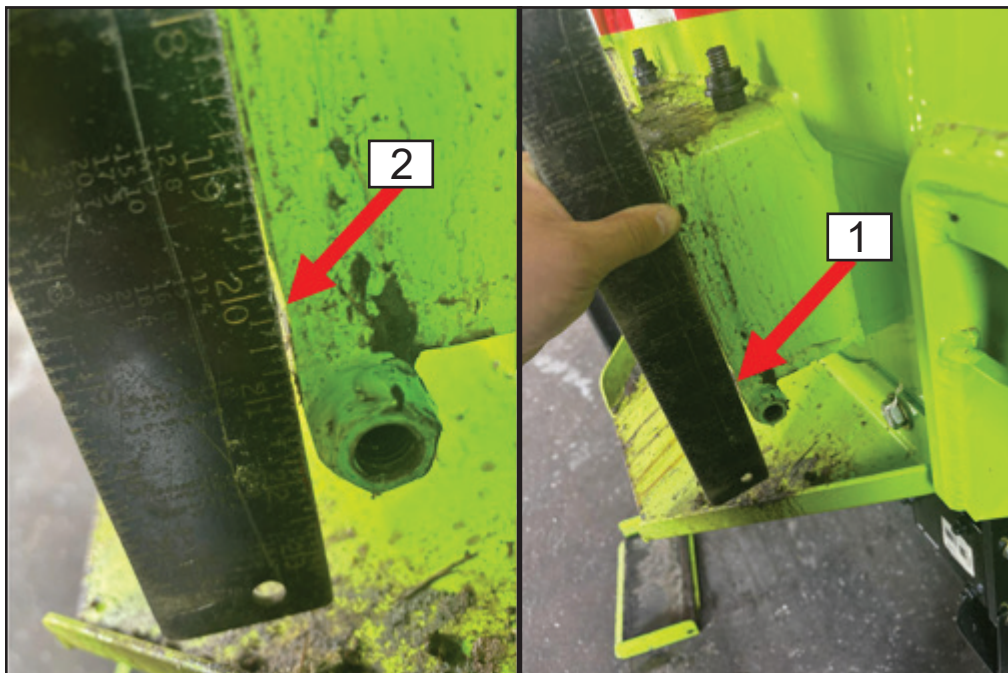

Figure 2
3.a Hold a flat edge ruler against each outside edge of the cleanout door chute to check for gaps (Figure 2, Item 1 and Item 2 shows a closer view).